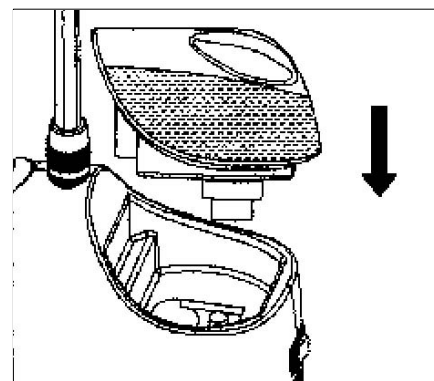

Figure 11
4. Place the *Water Fill Tank* on the *Water Reservoir* (see Figure 11). You should hear water flowing into the *Water Reservoir* for a short time.